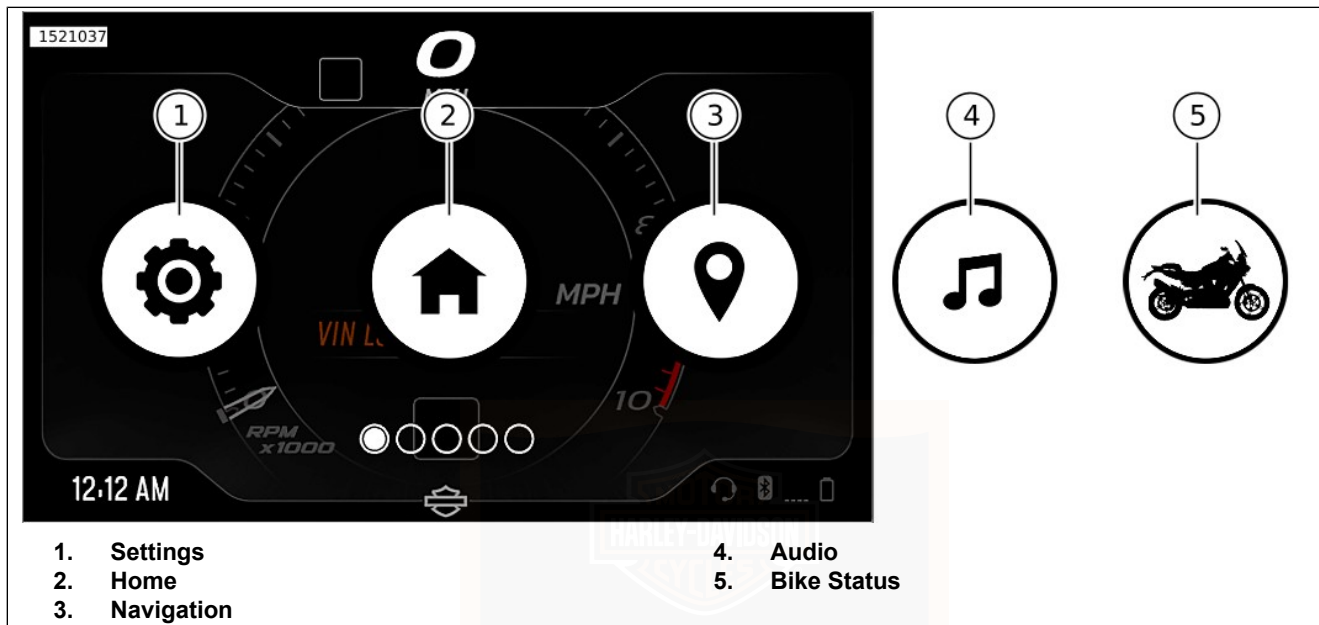

Figure 38. Menu Selections
See Figure 38. To access the menu selections on the IM press the menu button (3) on the Left Hand Control Module (LHCM).
2. See Figure 38. **Select:** settings menu (1).
See Figure 38. To access audio functions **Select:** audio card (4).
1. See Figure 38. **Select:** settings menu (1).